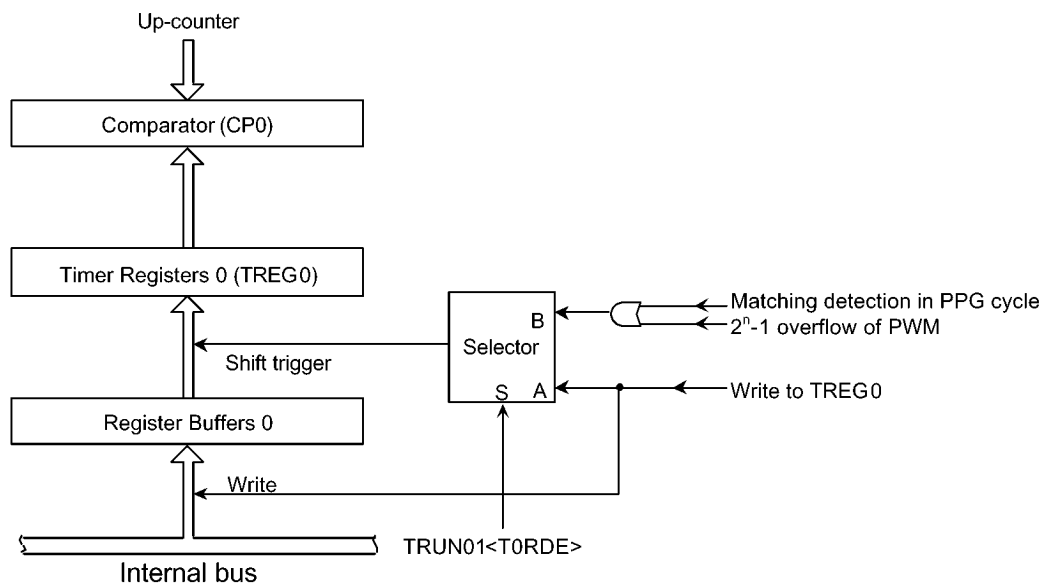

Figure 3.7.2(2) Configuration of TREG0
A Reset initializes <T0RDE> to 0, disabling the double buffer. To use the double buffer, write data to the timer register, set <T0RDE> to 1, and write the following data to the register buffer. Figure 3.7.2(2) shows the configuration of TREG0.